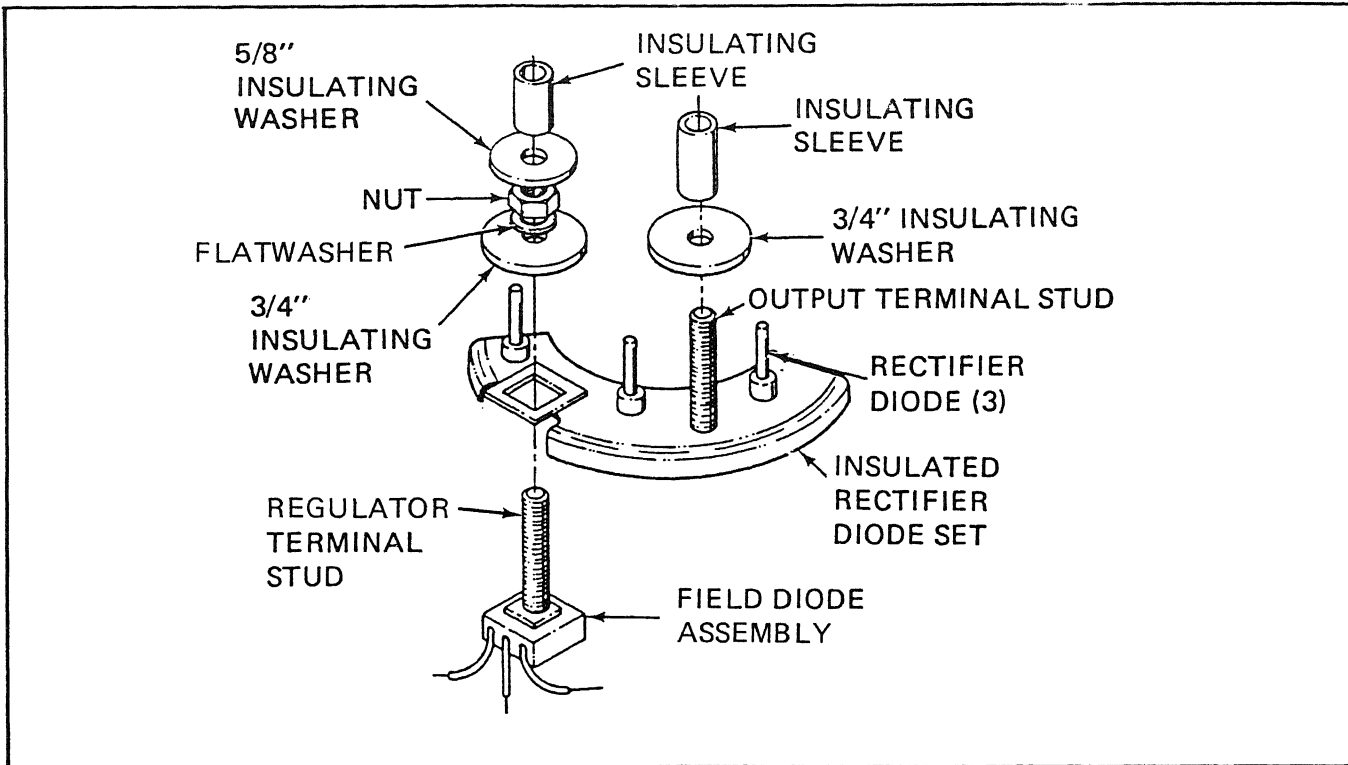

Figure 5-28.12. Field Diode Assembly Detail
- (11) Remove the field diode assembly by removing the hex nut and washer securing the field diode assembly to the ungrounded rectifier diode heat sink, Figure 5-28.12. Unsolder the three leads at the rectifier diode terminals to free or test the field diode assembly. Use heat dams to protect the rectifier diodes in all soldering operations.